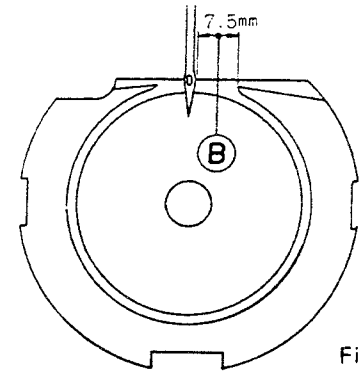

Fig 28
C. The shuttle race must be positioned in relation to the needle, as shown in Fig. 28, so that there is a clearance  $B$  of 7.5 mm (19/64") between them. If the clearance  $B$  is smaller, the needle thread will tend to snag.